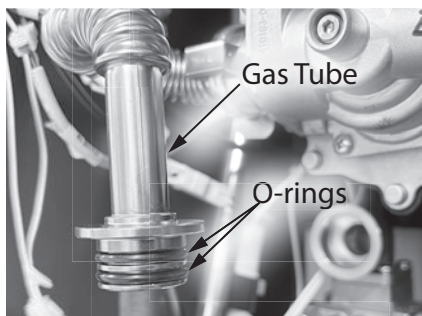

Figure 83 - O-ring replacement (two o-rings)
- 14** Install the two new O-rings on the gas tube as shown in Figure 83.